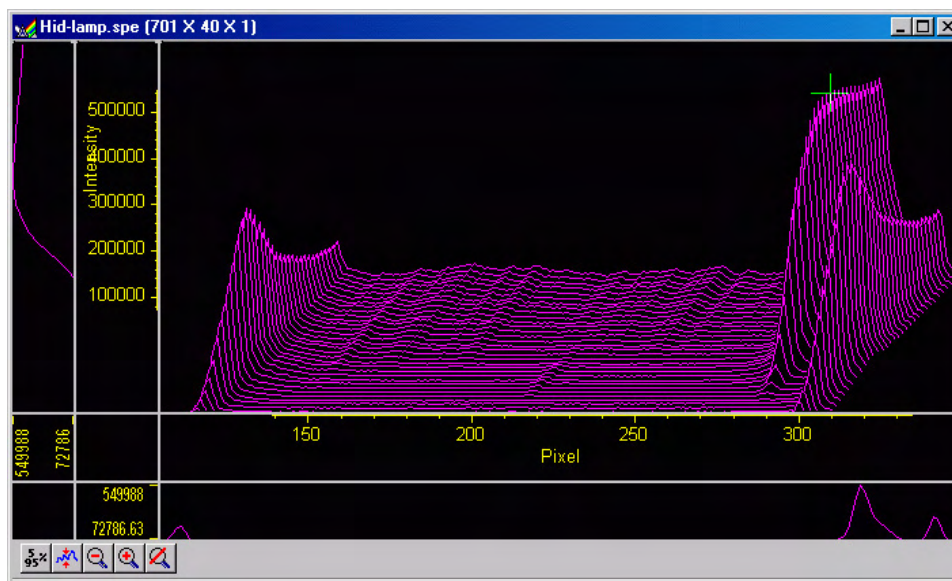

Figure 86. Hid-lamp.spe 3D graph expanded to show defined region
2. Click on  (Zoom In). The view will change so that only the selected region is displayed as shown in Figure 86.